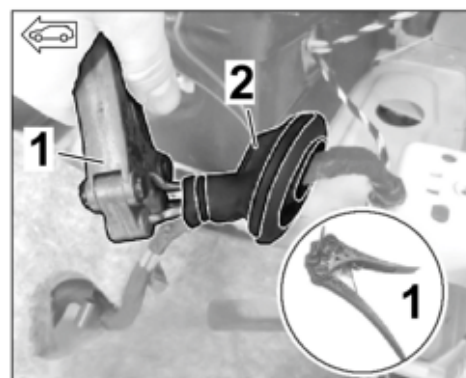

Figure 31
3.3.7 Guide the new branch for the exhaust flap (left/right) through the new grommet (left = $\varnothing$ 66.5 mm (2.61 in) / right = $\varnothing$ 46 mm (1.81 in) $\Rightarrow$ Figure 31) using three mandrel pliers and an auxiliary line (Tekalan or Teflon tube).